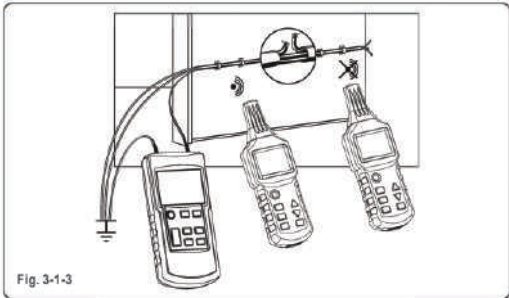

Fig. 3-1-3
- All lines which are not required must be connected to the auxiliary earth in accordance with Fig. 3-1-3.
- Connect the transmitter to one lead and to an auxiliary earth according to Fig. 3-1-3.